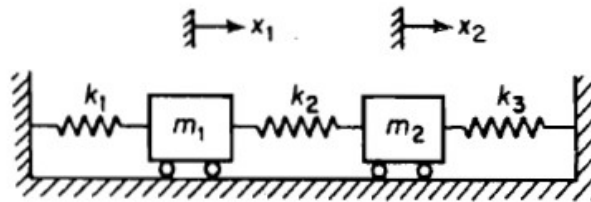

Figure 4
- Q.4(b) Derive the flexibility matrix for the spring-mass system shown in Figure 4. [3] 1,2,5 6